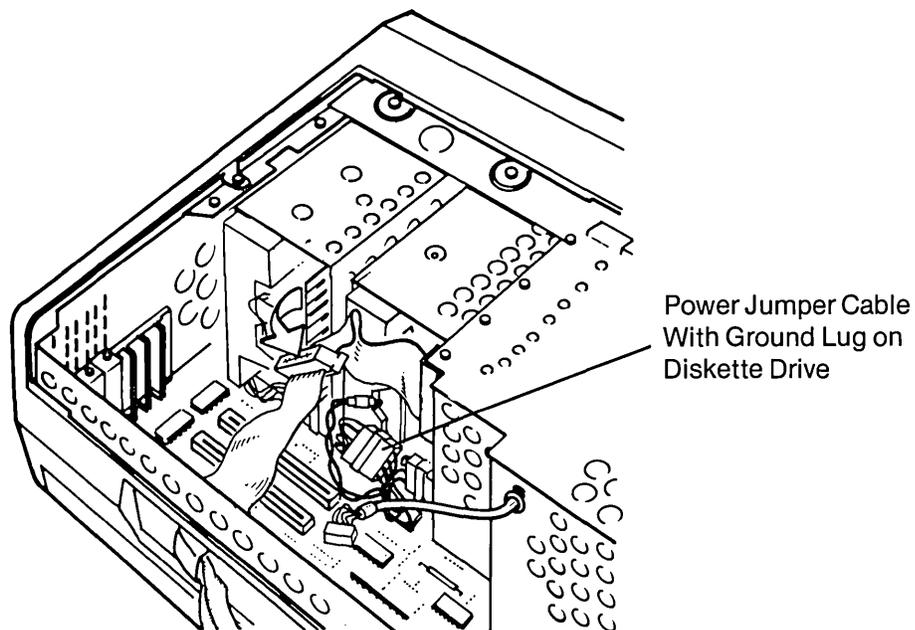

Figure 11-25. Installing the Power Jumper Cable.
9. Install the power jumper cable with the ground lug on diskette drive "A (see Figure 11-25).